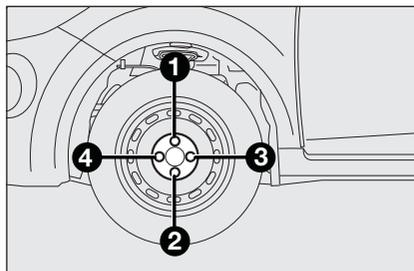

fig. 8
- fully tighten the bolts, passing alternatively from a bolt to the opposite one, following the order indicated in **fig. 8**.
- using the wrench provided, fully tighten the bolts in the sequence shown in **fig. 8**;